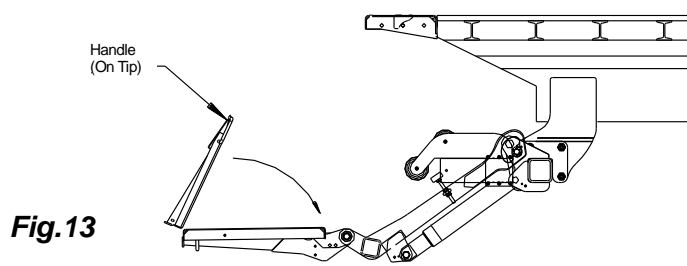
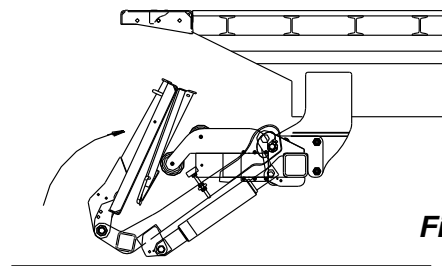

Fig.13
Fig.14
- Raise platform approximately 16" from the ground, fold the tip manually using the handle/strap and secure the tip to the main with the safety chain/strap, **Fig.13**. Manually lift the platform to rest against the wheels, **Fig.14**.